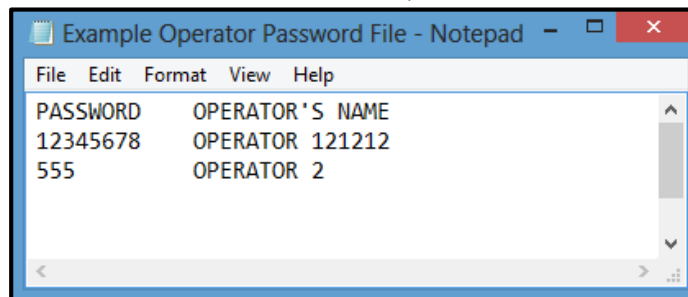

Figure 6.7-1: Example Operator Password File
2. Enter the first line `"PASSWORD____OPERATOR'S_NAME"`. See Figure 6.7-1 for an example of this first line.
4. Enter the first password and operator’s name on the second line. Example: `"12345678____OPERATOR_121212"` (Figure 6.7-1).
5. Enter more passwords and operator’s names if more than one is needed. Example with a shorter password: `"555____OPERATOR_2"` (Figure 6.7-1).